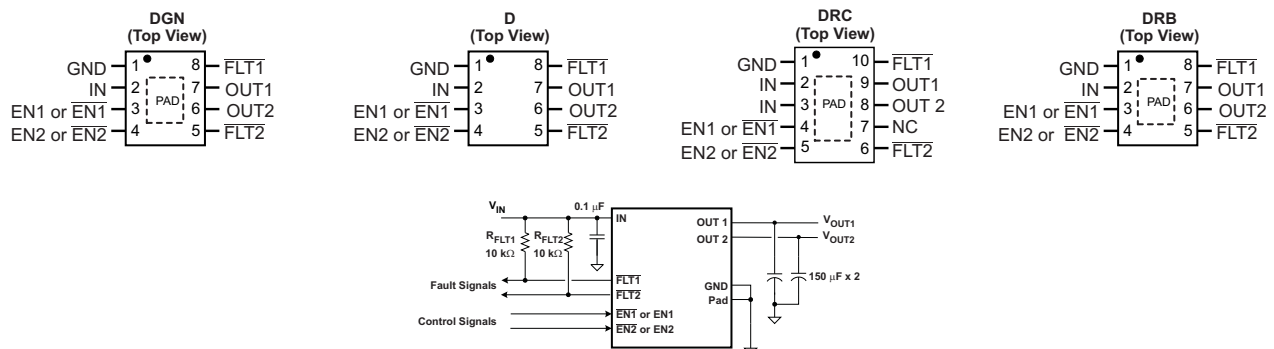

Figure 1. TYPICAL APPLICATION
- (1) Absolute maximum ratings apply over recommended junction temperature range.
(2) All voltages are with respect to GND unless otherwise noted.
(3) See INPUT AND OUTPUT CAPACITANCE section.
(4) VOUT was surged on a PCB with input and output bypassing per Figure 1 (except input capacitor was 22 µF) with no device failure.